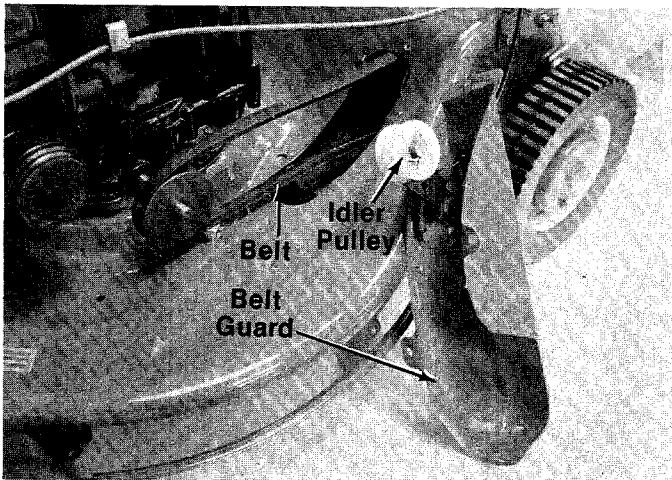

FIGURE 21.
5. Remove the belt from the idler as you lift off the belt guard. See figure 21.